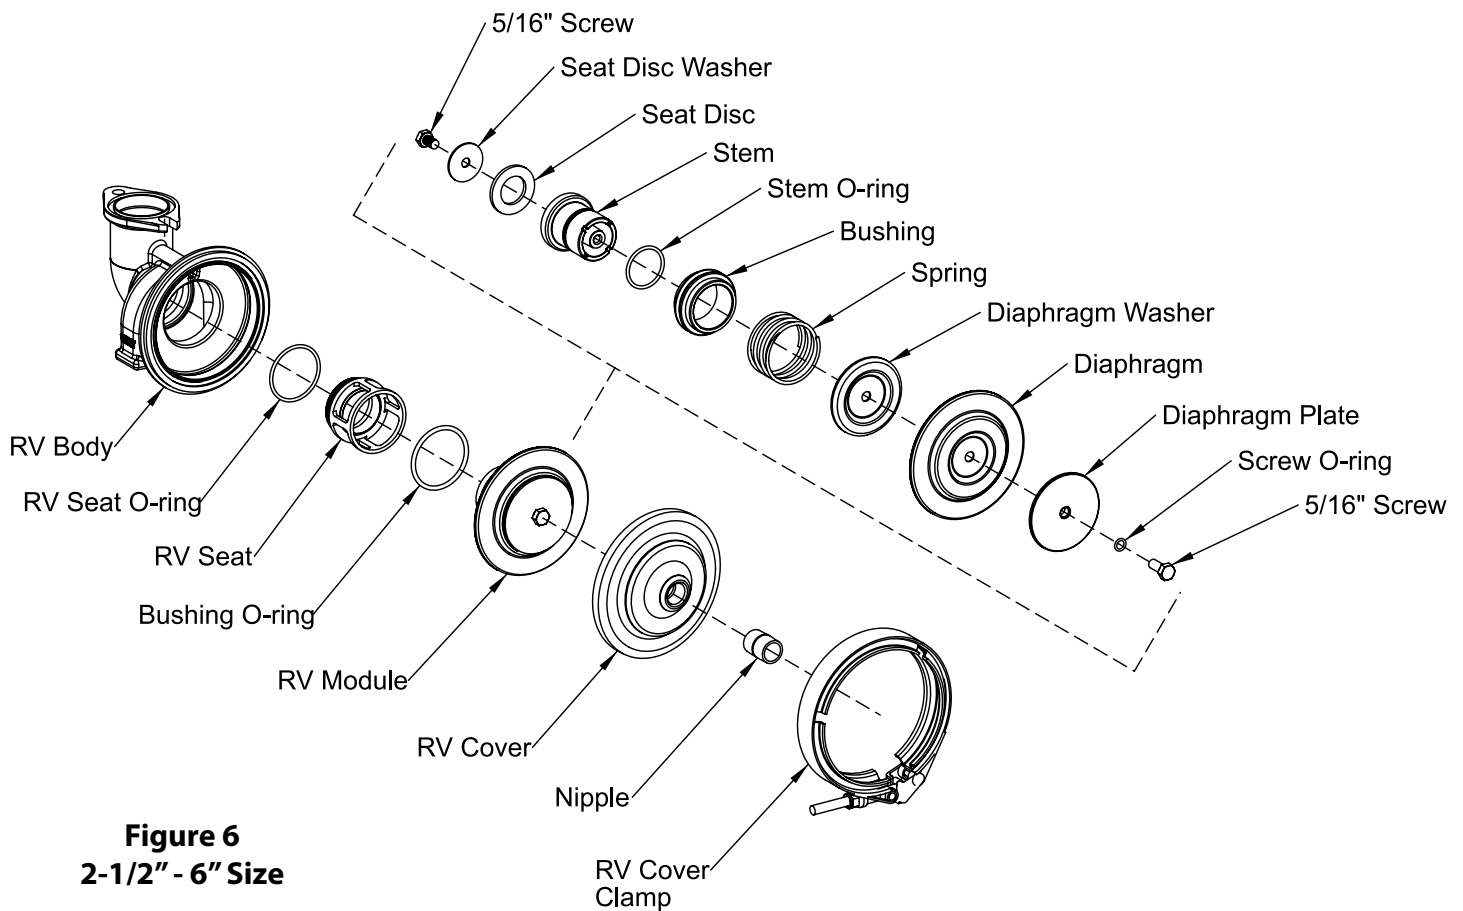

Figure 6
1. Unscrew the sensing hose from the nipple (sensing hose is not shown). (See Figure 6)